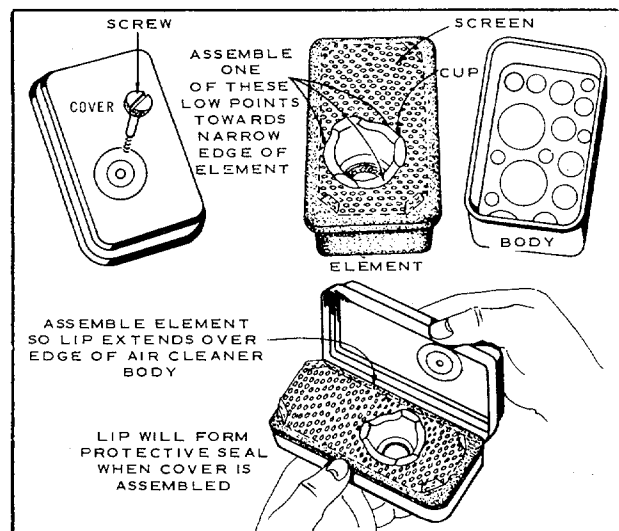

FIG. 18
D. Assemble parts - fasten to carburetor with screw. See Fig. 18.